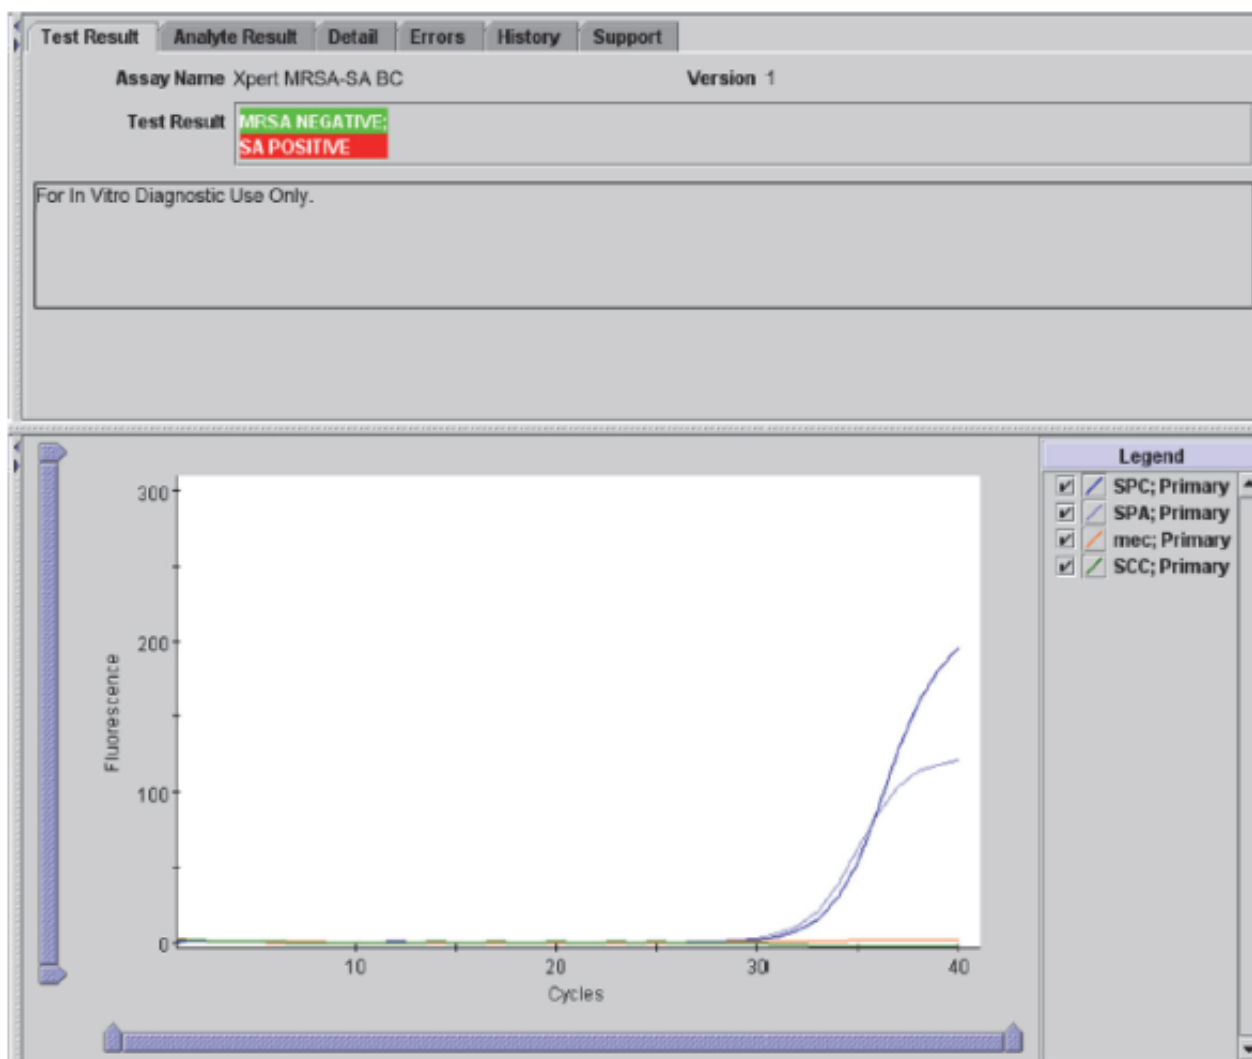

Figure 3. An Example of a SA Positive Result
B. MRSA NEGATIVE/SA POSITIVE (FIGURE 3)